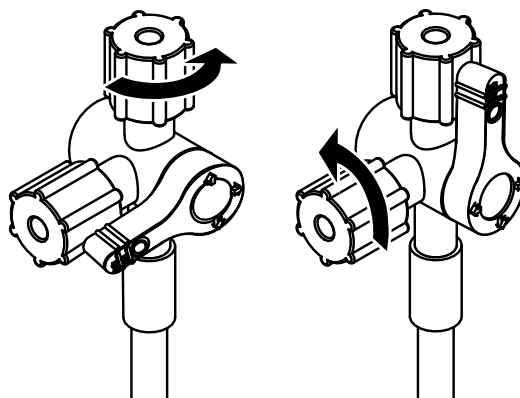

Figure 2. 3-way valve in open positions
1. Remove the device from the package and ensure that the inner diameter (ID) of the sheath is appropriate for the maximum diameter of the instrument or catheter to be introduced.
3. Prepare the sheath for flushing and ensure that the 3-way valve is open. There are two options to do this. See Figure 2.